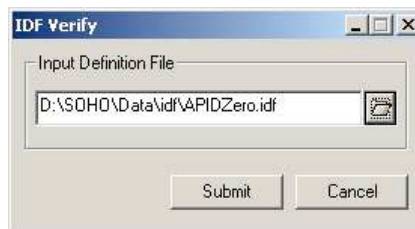

Figure 106: IDF Verify Window
- Type an IDF name or click the browse file folder icon  to select an IDF for verification (see Figure 106).